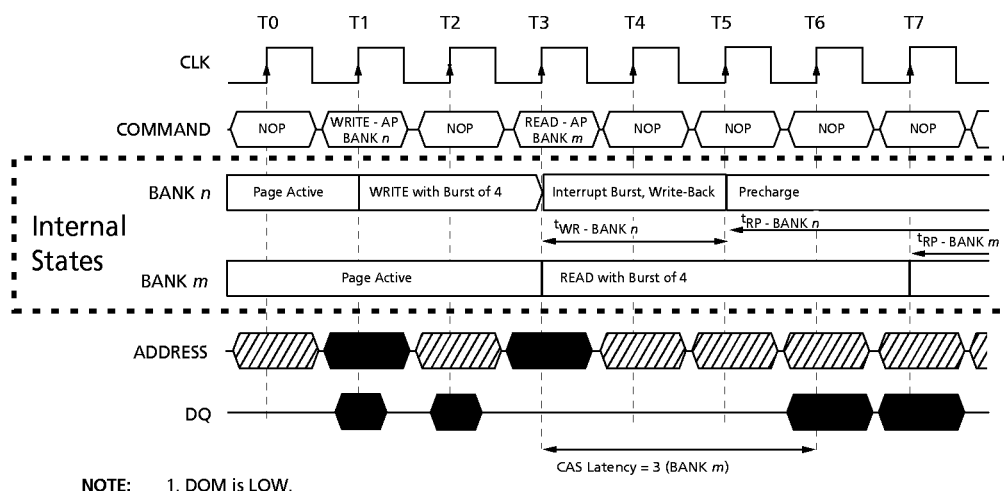

Figure 26
- Interrupted by a READ (with or without auto precharge): A READ to bank m will interrupt a WRITE on bank n when registered, with the data-out appearing CAS latency later. The PRECHARGE to bank n will begin after t_{WR} is met, where t_{WR} begins when the READ to bank m is registered. The last valid WRITE to bank n will be data-in registered one clock prior to the READ to bank m (Figure 26).